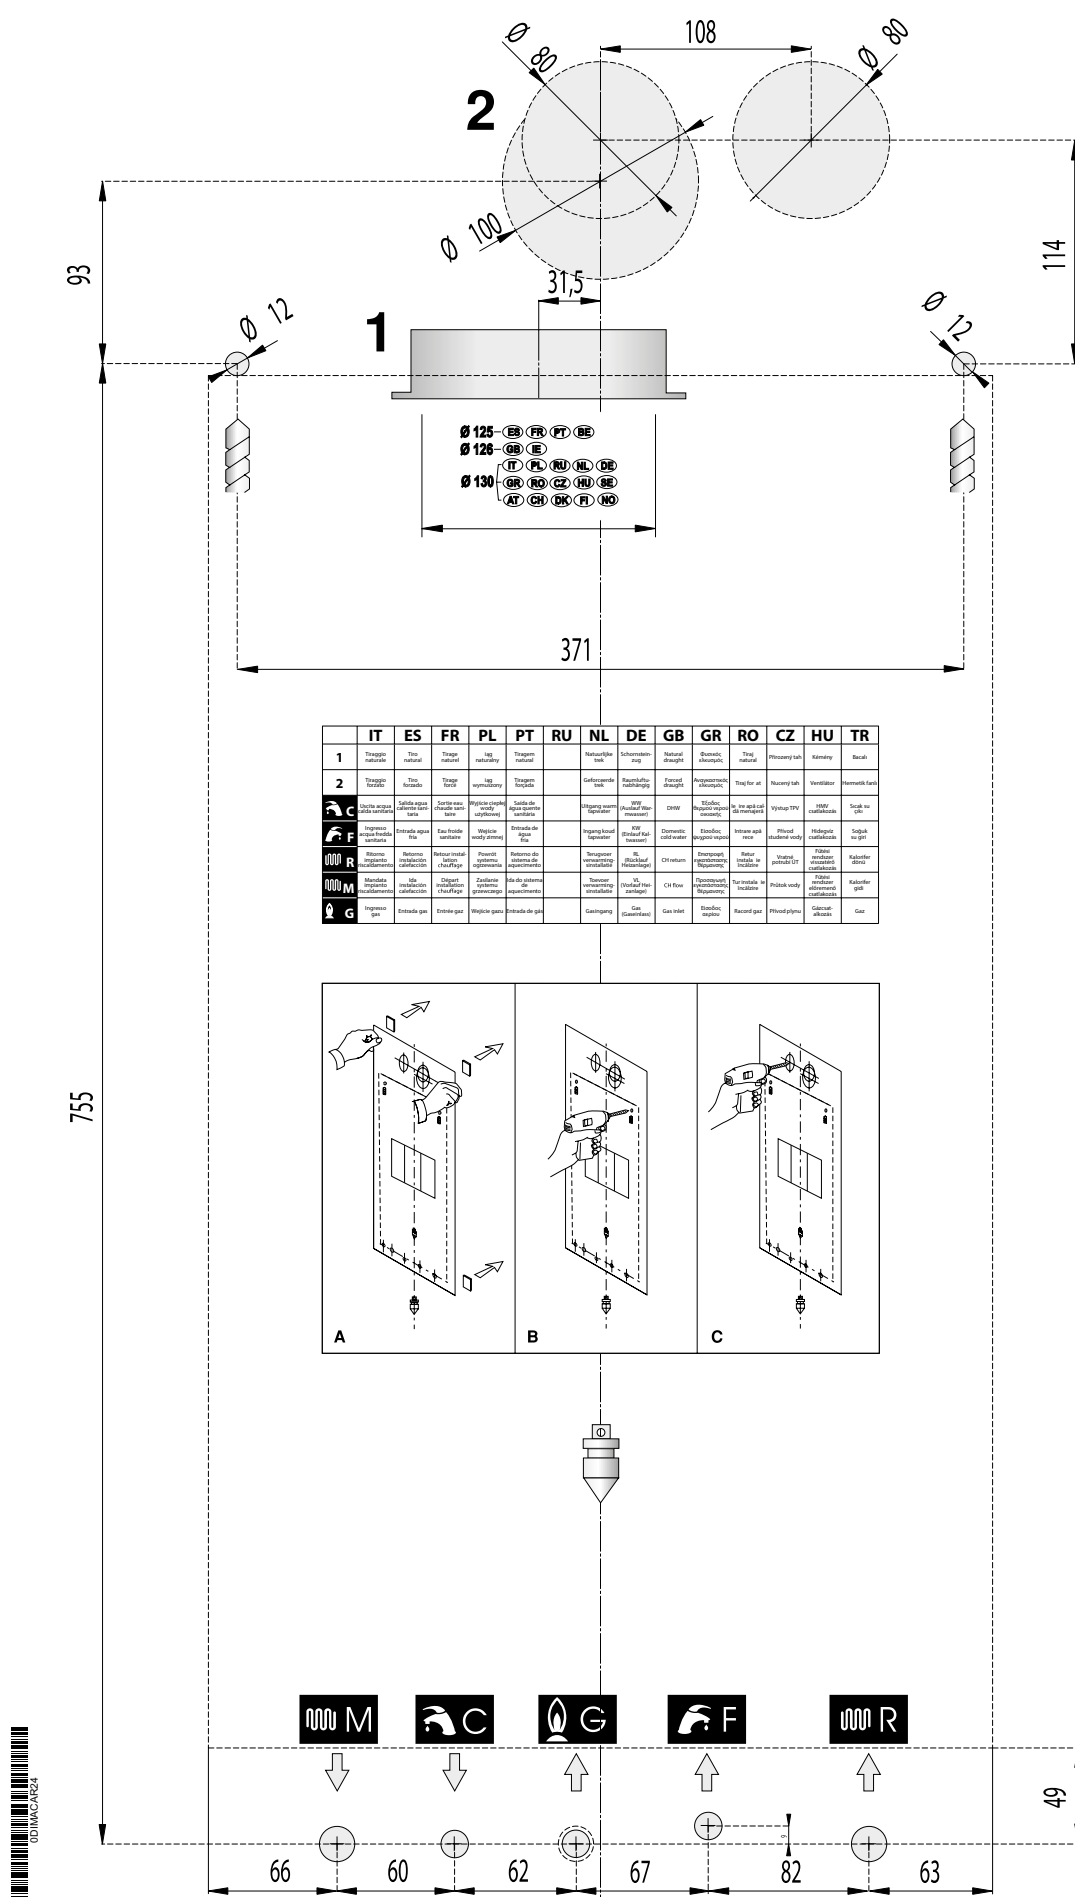

Fig. 7 Paper template
- the template for mounting the boiler on a wall (see Fig. 7 Paper template).
Each boiler is supplied with a paper template, found inside the packaging (see Fig. 7 Paper template).